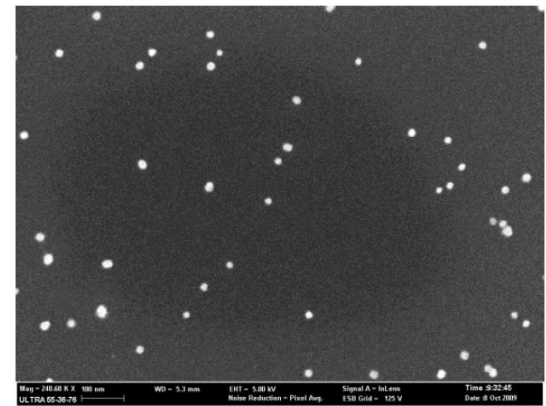

Fig. 3
- VI. Perform Remote FE-SEM Analysis (Figure 3)